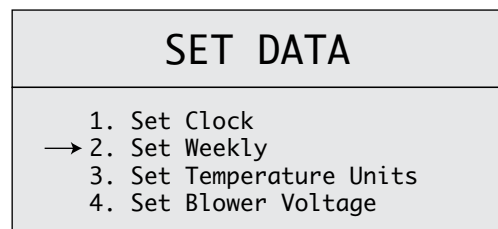

Figure 22
1. Press and hold the ENTER  button until the "Set Data" menu appears on the screen. Using the SCROLL DOWN button, select "Set Weekly." Press ENTER. This will take you into the "Weekly Schedule" screen. **SEE FIGURE 22.**